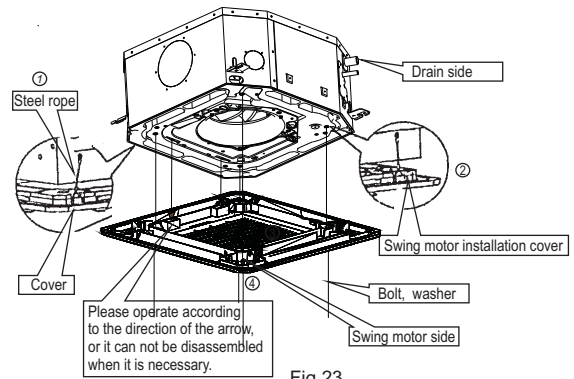

Fig.23
(2) Install the panel
- a. Align the swing motor on the panel to the water receiver of the body properly. (Refer to Fig.23)
- b. Hang the four fixed rope of the main body to the installation cover and the other three covers of the swing motor: (Refer to Fig.23)
- c. Install the panel on the main body with bolt (M5×16) and washer. (Refer to Fig.23)